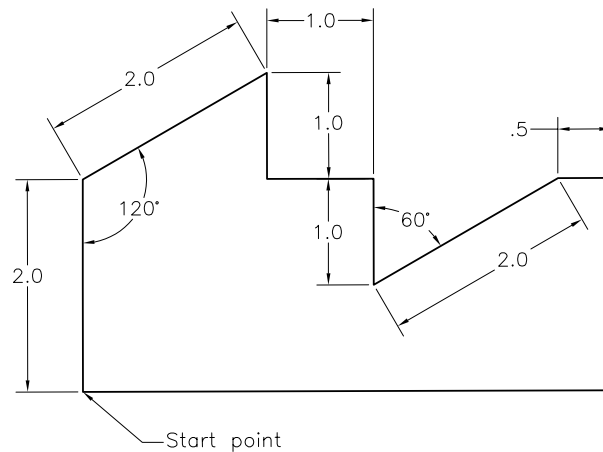

Figure 2-51 Drawing for Example 5
In this example, you will set the units of a drawing based on the specifications given below and then draw Figure 2-51.
- With the units set, you need to draw Figure 2-51 using the relative polar coordinates. Turn off the dynamic input. The prompt sequence to complete the sketch is as follows: